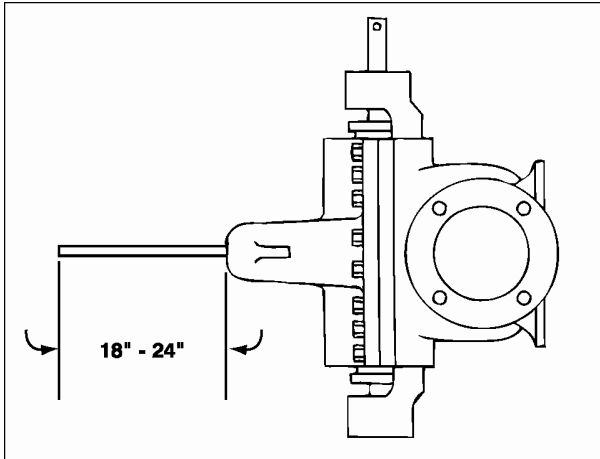

FIGURE 53 – CASING HALF REMOVAL
- Remove the larger of the two pipe plugs from the top of the casing upper half and install an 18" to 24" solid bar threaded at one end into the exposed tapped hole. If a threaded bar is not available, it is permissible to use a standard pipe. NOTE: This bar will be used to stabilize upper half during disassembly of casing upper half (See Figure 53).